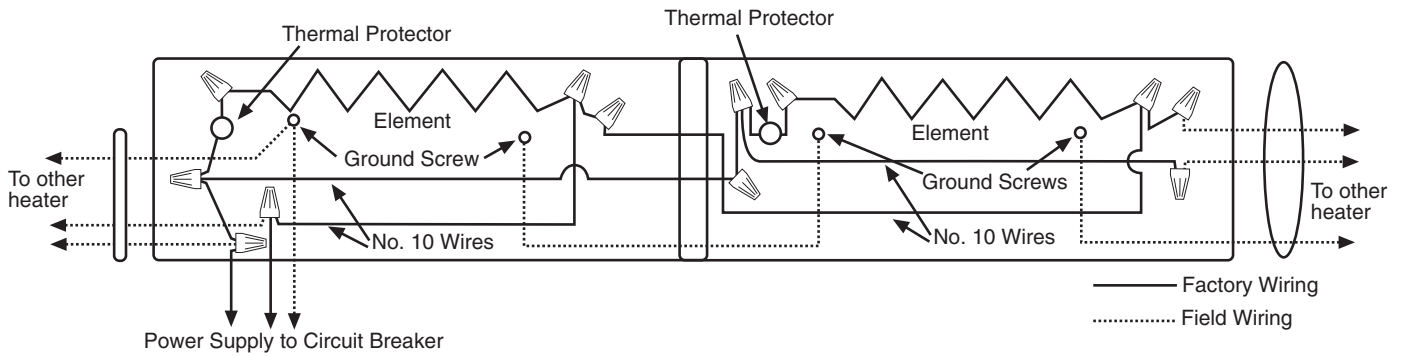

Fig. 7
- Following the wiring diagram secured to the heater, make the electrical connections. Refer to Fig. 7 to connect the other heaters in parallel. Grounding of the other heaters is accomplished by connecting a jumper wire (not supplied) between the two adjacent heaters.
IMPORTANT NOTE: These heaters are provided with a built-in safety limit (Thermal Protector— see Fig. 7) to automatically turn off the heater if it is blocked or otherwise overheats due to an abnormal condition. The heaters should not be cycling off on this safety control during normal use. If this is occurring, check heater installation to assure it has adequate clearances and the free airflow around heater is not restricted. If heater continues to cycle on this safety control, discontinue using until it can be inspected and/or repaired by a qualified electrician.